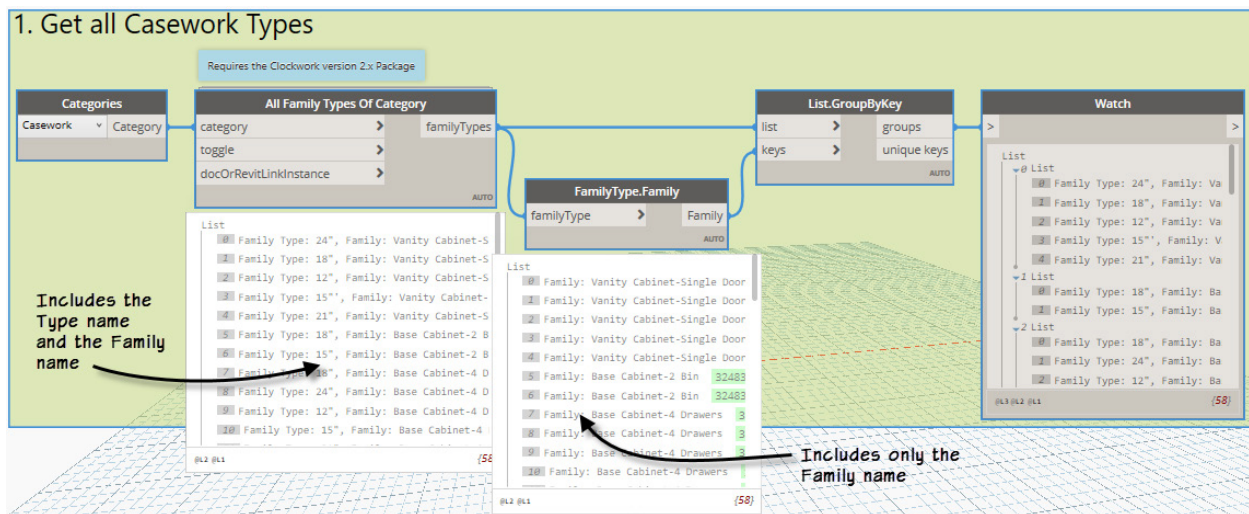

Figure 47
10. Select all the nodes onscreen and group them. Edit the name (see Figure 47).